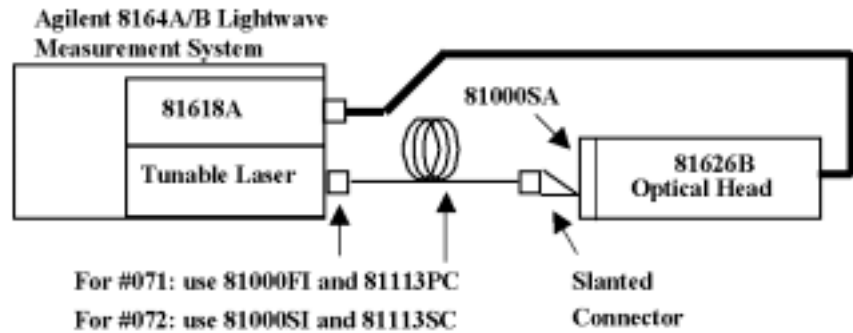

Figure 29 Test Setup for Power Stability Tests
- 1 Set up the equipment as shown in Figure 29: